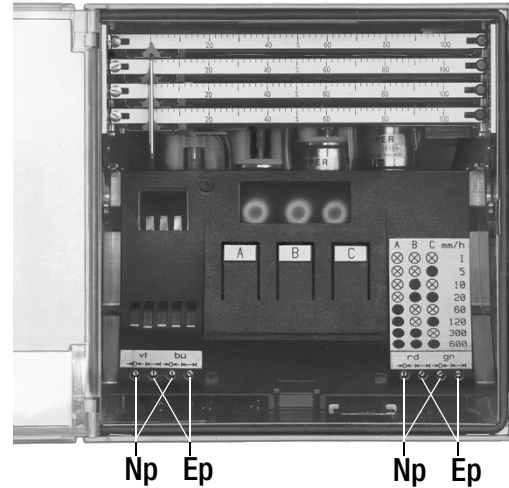

Figure 16 Display and control panel with potentiometer
3.2 Set zero and calibrate the upper range limit (see Figure 16)
The left potentiometer is for zero setting and the right potentiometer for calibration of the upper range limit (see Figure 16). For zero setting, a bipolar voltage and/or current generator is required.